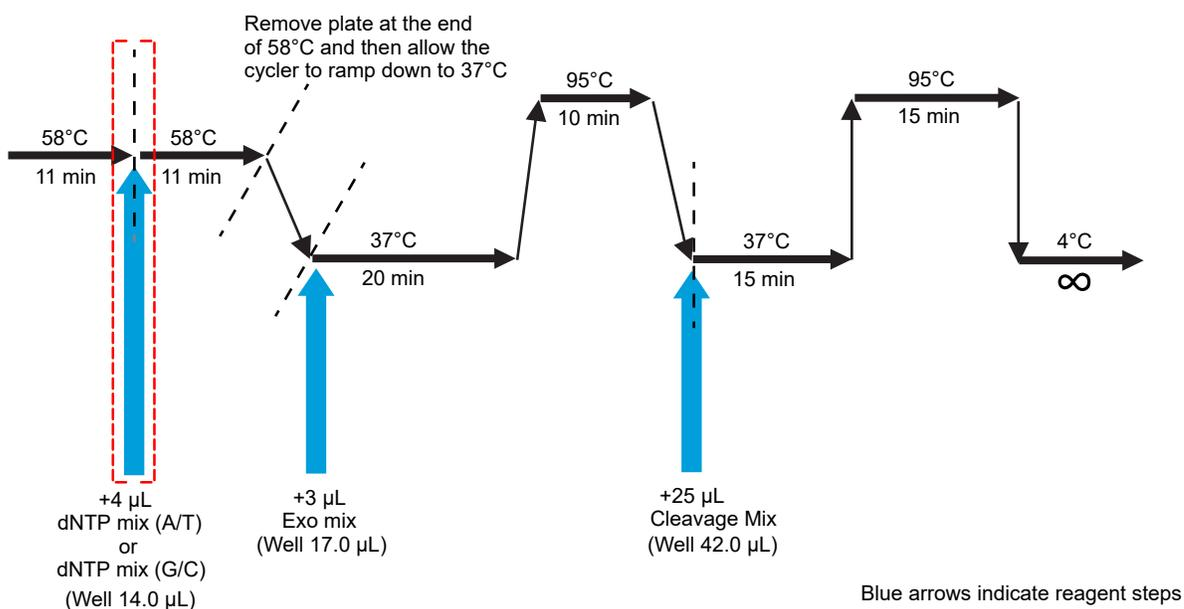

Figure 9 AT Master Mix and GC Master Mix addition.
1. After 11 minutes, pause the OncoScan Gap Fill thermal cycler protocol at 58°C. (Figure 9.)
2. Resume the OncoScan Gap Fill thermal cycler protocol. (Figure 9.)